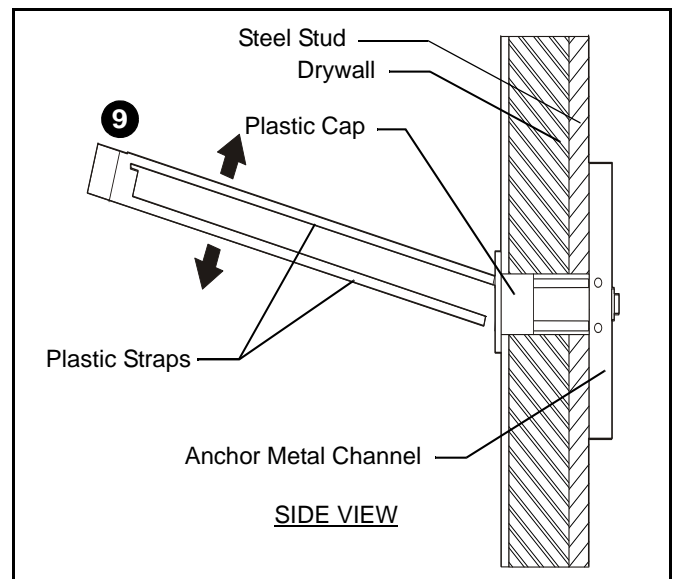

Figure 13
9. Snap off plastic straps on anchor at wall by pushing side to side, snapping off straps level with flange of plastic cap. (See Figure 13)
11. Place wall track accessory over anchors and align mounting holes in display mount with holes in anchors. (See Figure 13)